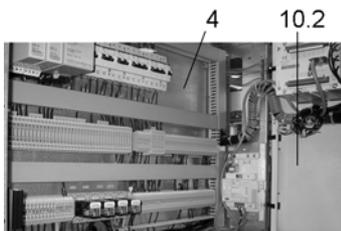

Figure 3.4
3) Control and Secondary Apparatus Compartment (4) (see Figure 3.4)